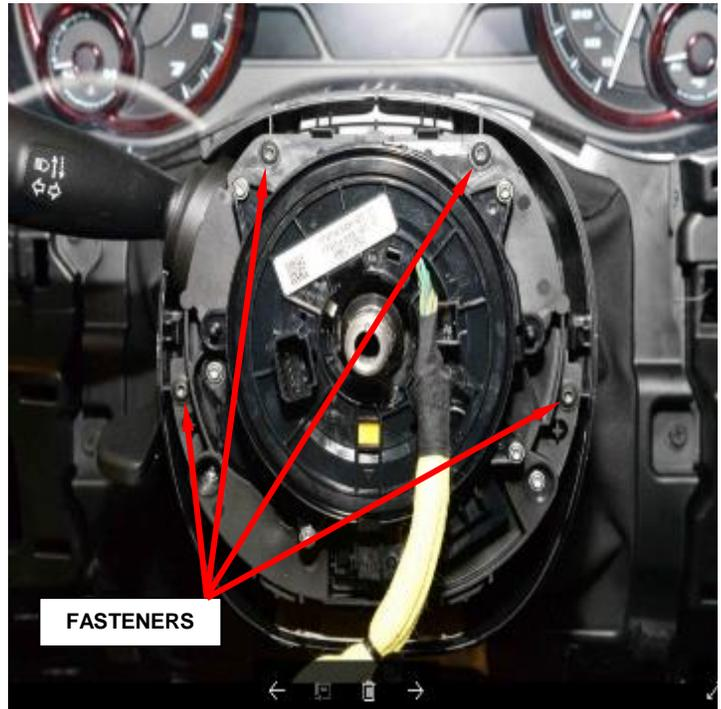

Figure 16 – Inner Shroud Fasteners
19. Remove the Steering Column Control Module (SCCM) (Figure 16).
- a. Remove four inner shroud fasteners (Figure 16).